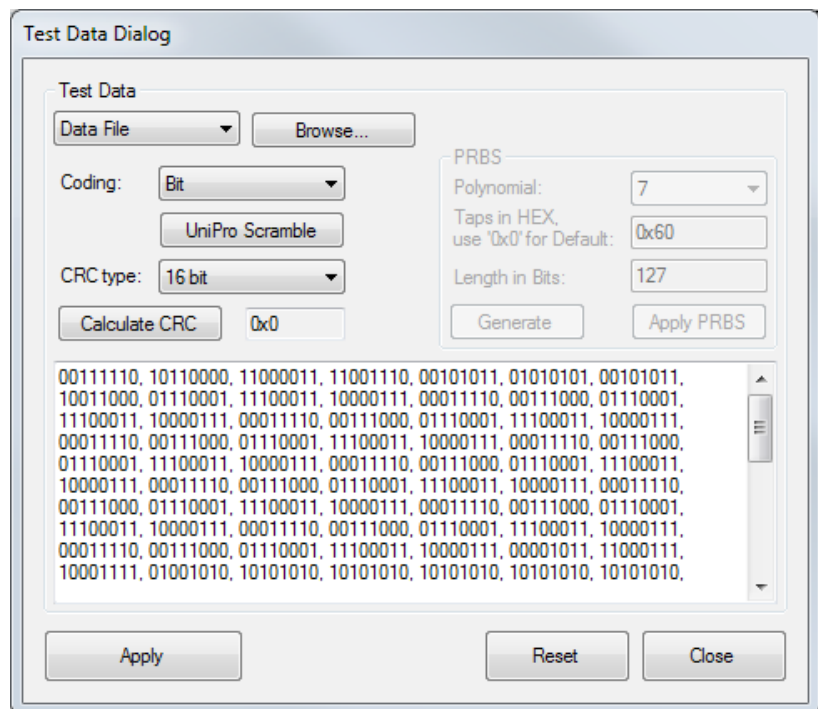
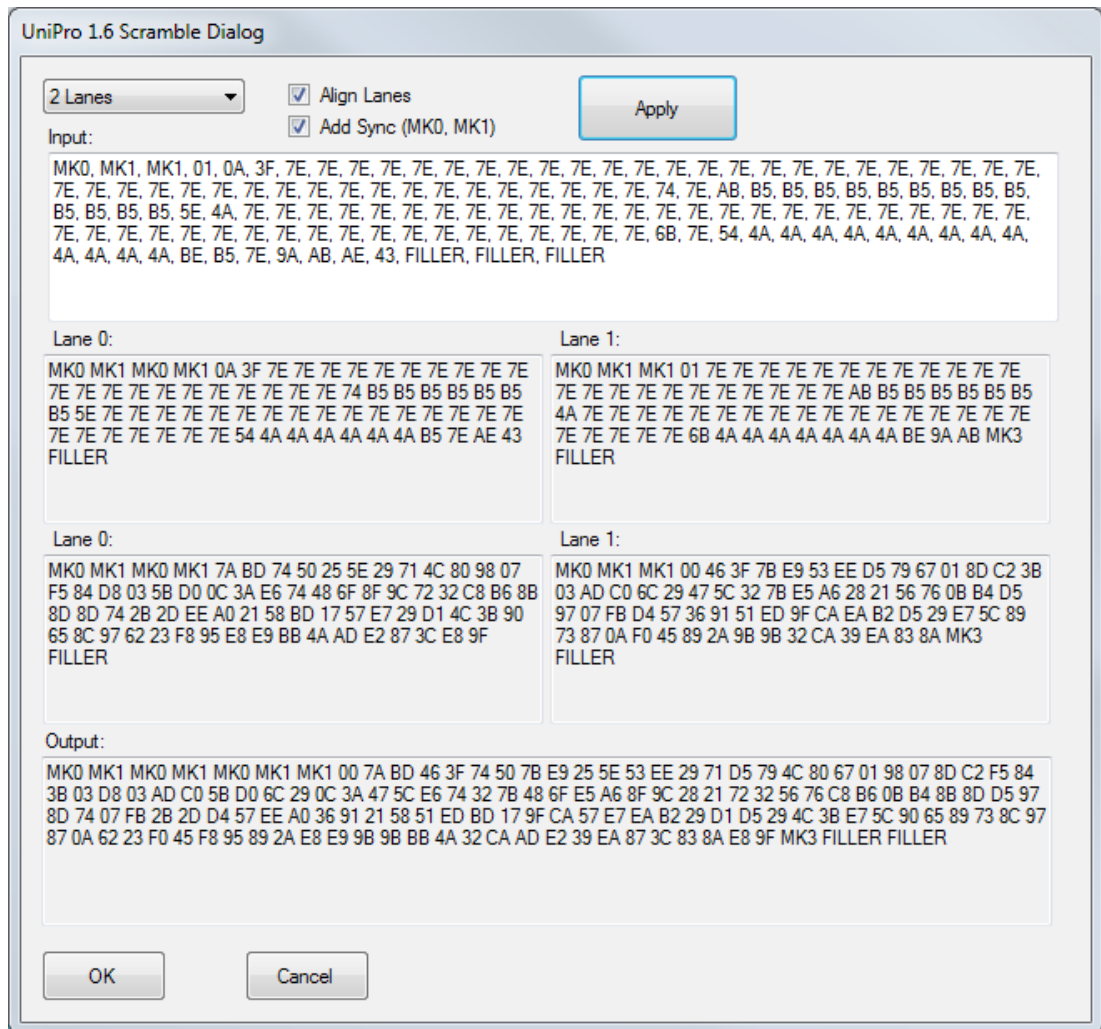

Figure 18 Test Data for Bit Coding
Figure 22 UniPro 1.6 Scramble Dialog
The panel on the bottom of the window displays the coding result as shown in Figure 18 to Figure 21.
Pressing on “**UniPro Scramble**” button, a window pops-up as shown in Figure 22 and it allows to generate a scrambled pattern as defined in the UniPro 1.6 specification. It includes the possibility of distributing the “**Input**” data to each lane, apply the alignment, scramble the data, and finally merge it back to the “**Output**” block. The Output data can be saved as a pattern (.seq or .dat) file by coping the data to a text file and loaded for the Frame Generator as GUI pattern.
- 1 In Figure 22, the pattern is loaded directly from the **Data Dialog** (Figure 18 to Figure 21) and converted into 8-Bit words such as MK0, MK1, 84, FE, and FILLER and displayed in the “**Input**” field.
- 11 Pressing on “**OK**” button closes the UniPro 1.6 Scramble Dialog (Figure 22). The pattern from the Output field is copied to Data Dialog (Figure 17 to Figure 21) and converted to 8 Bit Words coding.